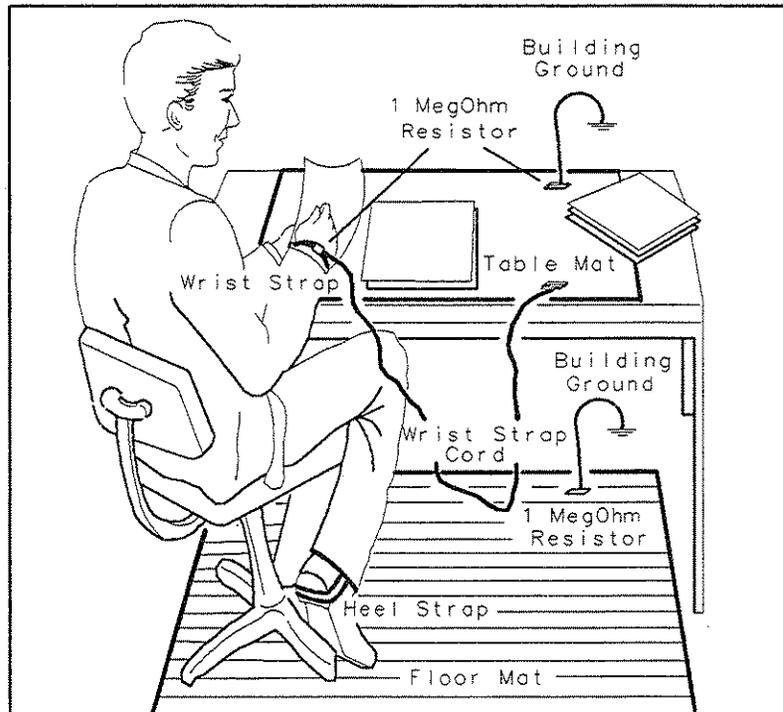

Figure 1-9. Example of a Static-Safe Work Station
Electrostatic discharge (ESD) can damage or destroy electronic components. All work on electronic assemblies should be performed at a static-safe work station. Figure 1-9 shows an example of a static-safe work station using two types of ESD protection: (1) wrist-strap (with greater than 1 M $\Omega$  isolation to ground) and table-mat combination, (2) heel-strap (with greater than 1 M $\Omega$  isolation to ground) and conductive floor-mat combination. The two types must be used together to ensure adequate ESD protection. Isolation to ground must be provided for personnel protection. Refer to Table 1-4 for a list of static-safe accessories and their part numbers.